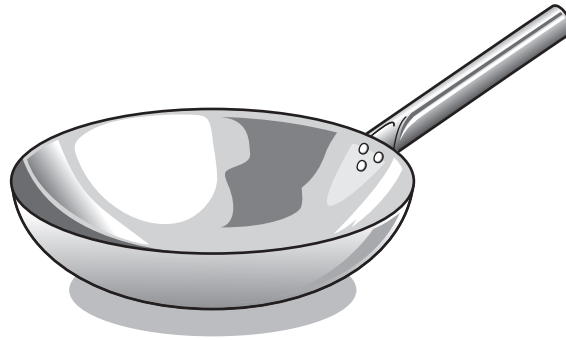

Fig. 2
Fig. 2 shows a cooking pan.
(a) Give **four** justified design requirements for a cooking pan of the type shown in Fig. 2.
- (e) (i) State a **suitable specific material** for the round base of the cooking pan shown in Fig. 2.
- (ii) Describe in detail how the round base of the cooking pan shown in Fig. 2 would be manufactured as a batch of **250**.